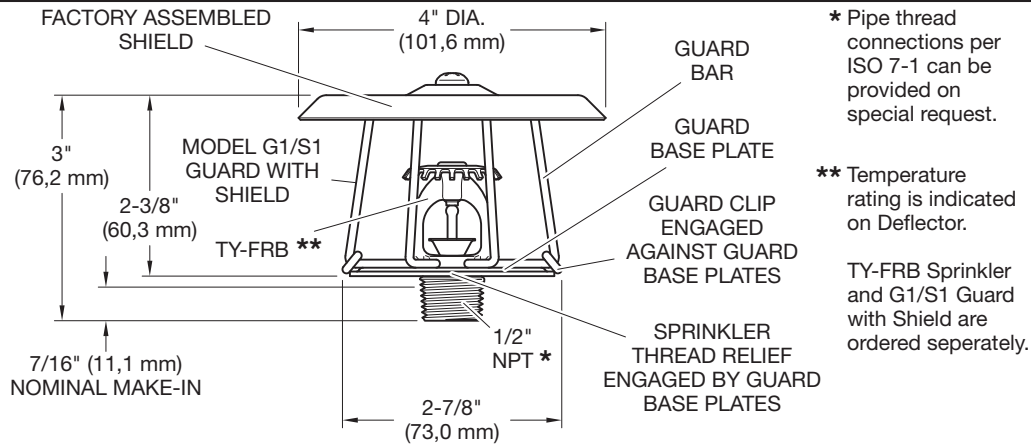

FIGURE 1
Step 2. Tighten the sprinkler into the sprinkler fitting using only the W-Type 6 Sprinkler Wrench shown in Figure 5. Apply the sprinkler wrench to the wrench flats shown in Figure 1.
Step 4. Spread the two halves of the sprinkler base plates enough to pass over the sprinkler thread relief portion of the sprinkler. See Figure 1.
Step 5. With the sprinkler guard positioned on the thread relief portion of the sprinkler, engage the bars with clips from opposing guard halves, then slide the clips up until they are seated against the base plates, completing the installation as shown in Figure 1 and Figure 4.